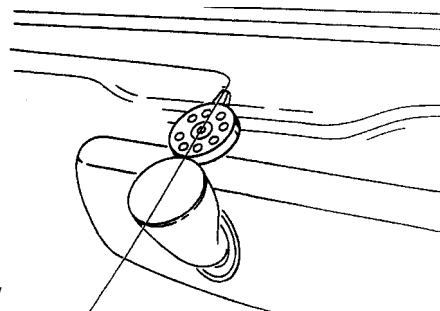

Figure 1
Information: The rain sensor functions according to an optical principle. It is fastened to the inner side of the windshield near the interior mirror and mounted in the swept area of the windshield wiper. (Figure 1). The rain intensity is measured with infrared light, and the windshield wiper pause intervals are controlled automatically.
- With standard interior rearview mirror: Between the mirror base and the windshield frame trim, and the cable harness pointing vertically upward (Figure 1).